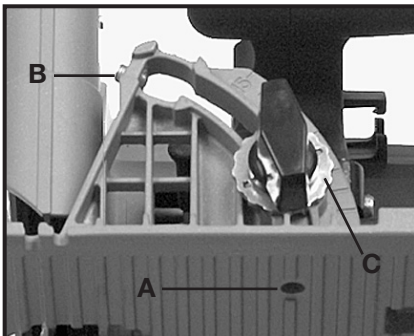
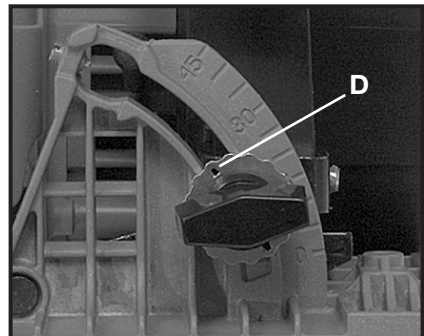

Fig. 6
Fig. 6A
The saw is equipped with adjustable positive stops at both 90° (A) Fig. 6, and 45° (B) Fig. 6. It is recommended that the accuracy of these stops be checked periodically and adjustments be made as necessary. These procedures are explained fully in the following sections of this manual.
This saw can be adjusted for bevel cuts of up to 3° beyond the positive stop at either the 45° or the 90° position. In normal operation the bevel stop sleeve (C) Fig. 6, is aligned as shown in Fig. 6. To adjust the saw for a bevel cut beyond the normal 45° to 90° range:
4. Pull out on the bevel stop sleeve (C) Fig. 6. Rotate sleeve to the position shown in Fig. 6A and push sleeve back in.
NOTE: The bevel stop sleeve must be returned to the normal position (see Fig. 6), before the saw can be adjusted for a bevel cut of between 45° and 90°.
2. Set bevel stop sleeve to normal position (see Fig. 6).